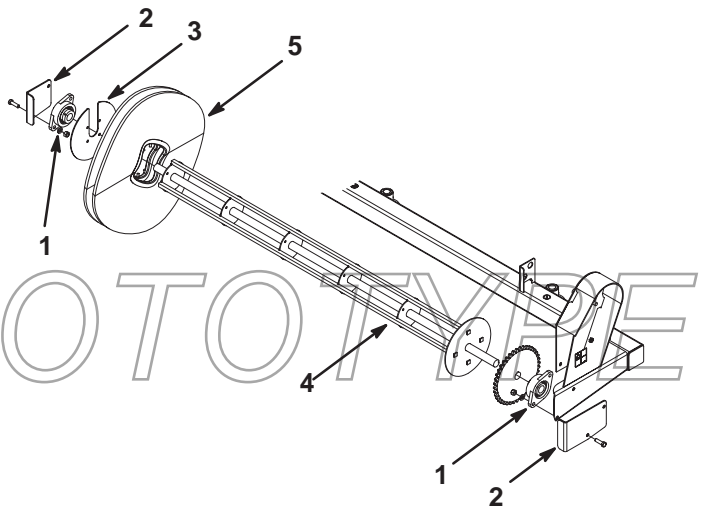

Figure 25
3. Remove fasteners securing axle bearings to right and left guards. This will allow removal of axle assembly and bearings (Fig. 25).